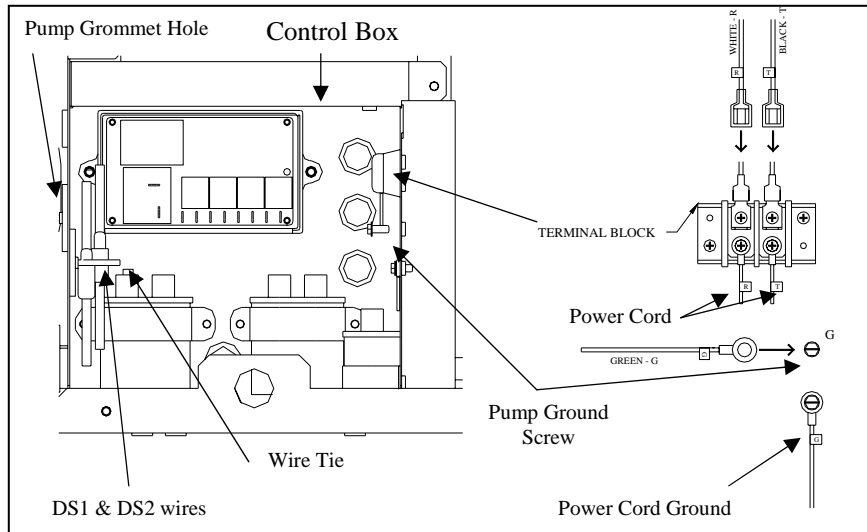

Figure 5
- 4) Connect the **Wire Harness** inside the **Control Box**. See **Figure 5 & 6**.